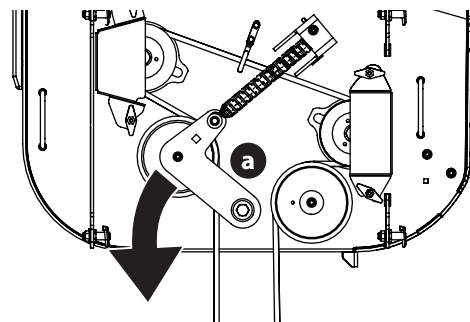
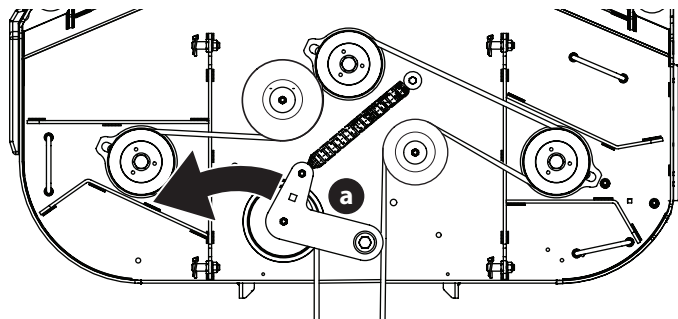

Figure 16
Figure 17
3. Using a 1/2" drive in the idler pulley bracket (a), turn the wrench counter-clockwise and slide the deck belt off the PTO pulley. See Figure 16 for 36" decks and Figure 17 on page 17 for 48" and 54" decks.